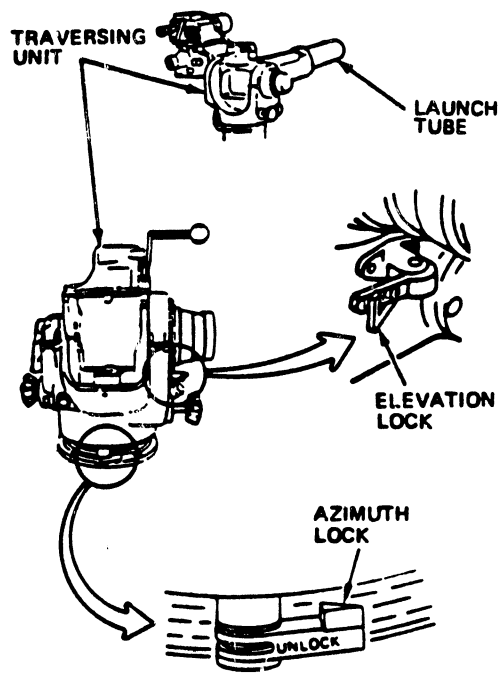

Fig 3-10. Location of Azimuth/Elevation Locks.
Step 3. Turn the elevation lock to the LOCKED position (fig 3-10). Use the control knobs and turn the launch tube up and down until it locks. Turn the azimuth lock to the UNLOCK position (fig 3-10). Hold the launch tube and turn it to the right then left, and back to the center.